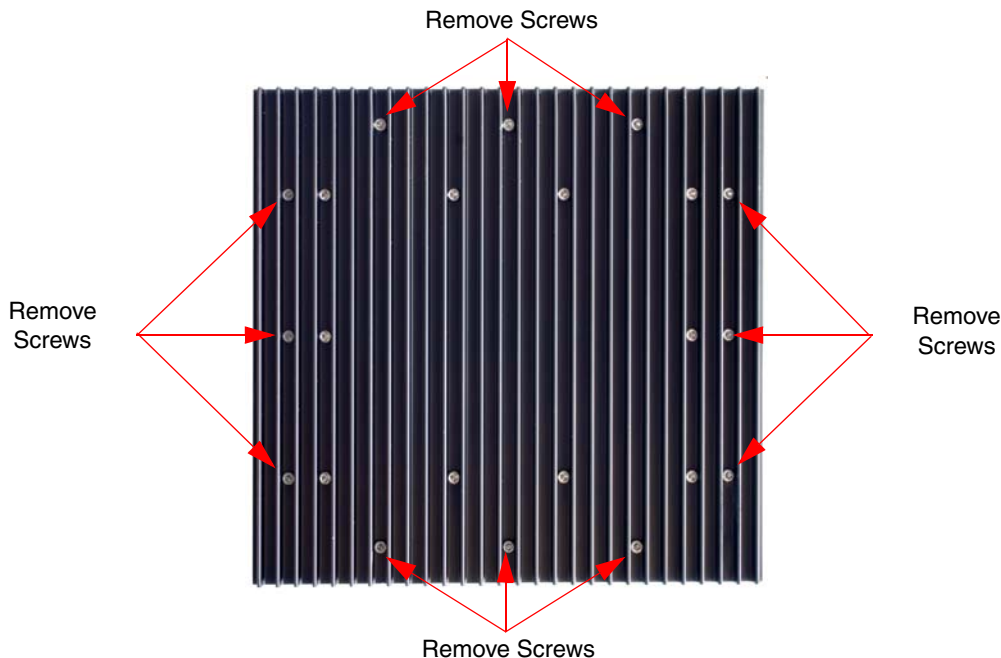

Figure 24: Remove mounting screws to detach power amp from cabinet.
- 6) Remove the 12 hold down screws (3/32" hex head) that hold the power amplifier assembly to the cabinet. The screw heads are accessible from the heatsink side of the assembly. Refer to **Figure 24**.